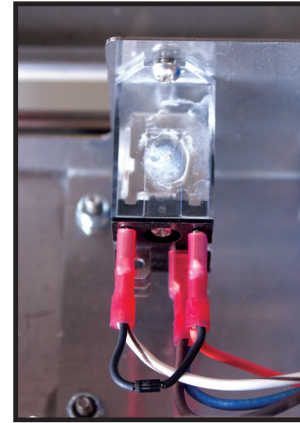

Fig 7.3A
4. Remove wires and hardware securing relay (Fig 7.3A).